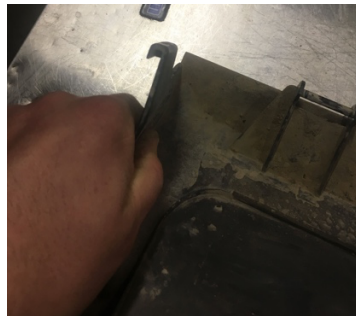

Figure 1 Limiting Latch
2. Press towards the right to release the Limiting Latch (Figure 1.) This will allow the door to open further.